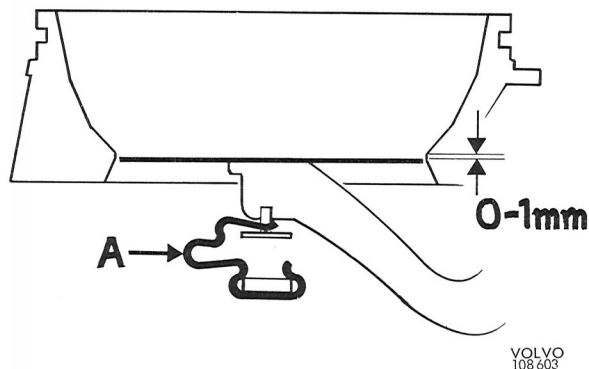

Fig. 1-23. Air flow sensor plate rest position
- \*10. Check the rest position of the air flow sensor plate, see Fig. 1-23. The upper surface should be in level with or not more than 1 mm below the air venturi lower edge. Adjust if necessary.